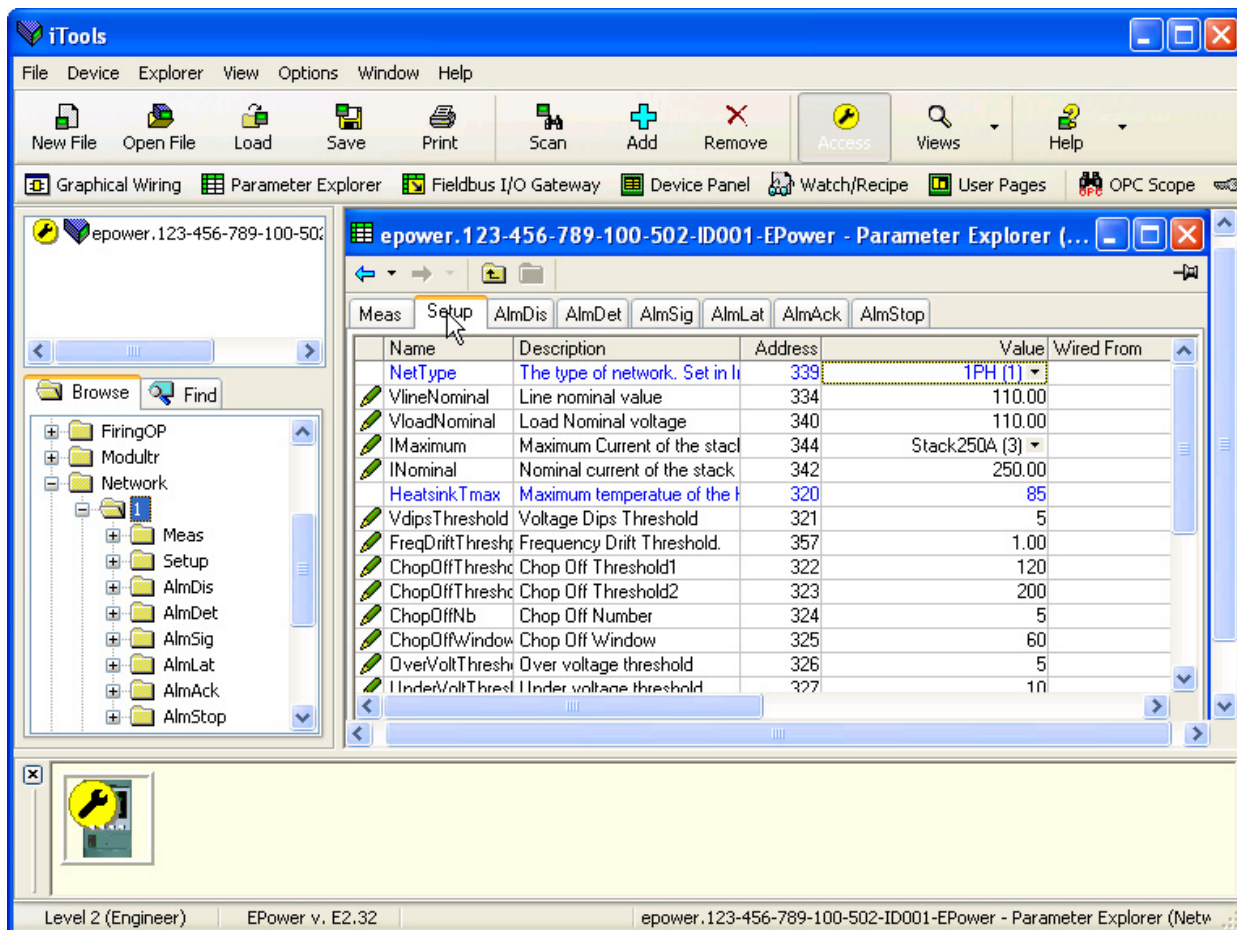
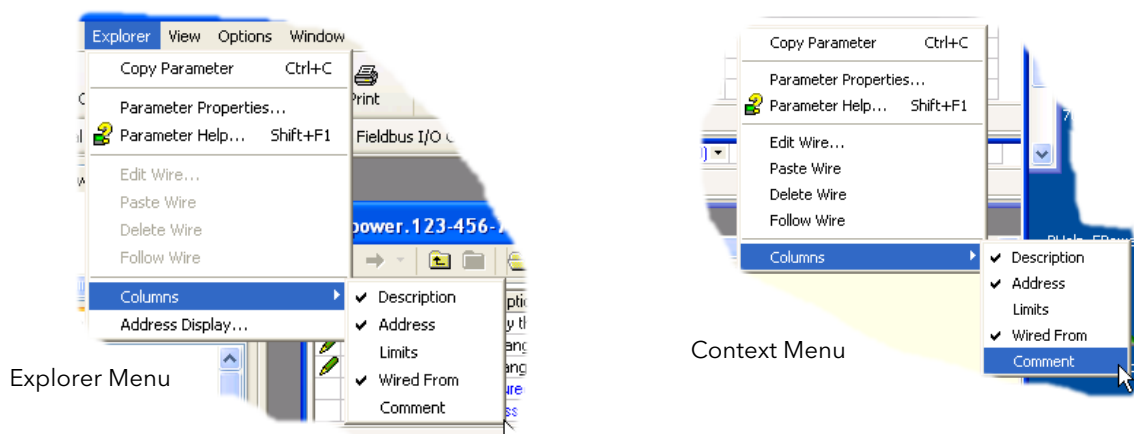

Figure 7.4a Parameter table example
Figure 7.4b Column enable/disable
In each case the function block parameters appear in the iTools window in tabular form, such as the example in figure 7.4a, below.
The figure above shows the default table layout. Columns can be added/deleted from the view using the 'Columns' item of the Explorer or context menus (figure 7.4b).
- Parameters in blue are non-editable (Read only). In the example above all the parameters are read only. Read/write parameters are in black and have a 'pencil' symbol in the 'read/Write' access column at the left edge of the table. A number of such items are shown in figure 7.4a, above.
- Columns. The default explorer window (figure 7.4a) contains the columns 'Name', 'Description', 'Address', 'Value', and 'Wired From'. As can be seen from figure 7.4b, the columns to be displayed can be selected, to a certain extent, using either the 'Explorer' menu or the context menu. 'Limits' have been enabled for the example above.
- Hidden Parameters. By default, iTools hides parameters which are considered irrelevant in the current context. Such hidden parameters can be shown in the table using the 'Parameter availability' settings item of the options menu (figure 7.4b). Such items are displayed with a shaded background.
Allows the user to enable/disable a number of parameter table columns (figure 7.4b).